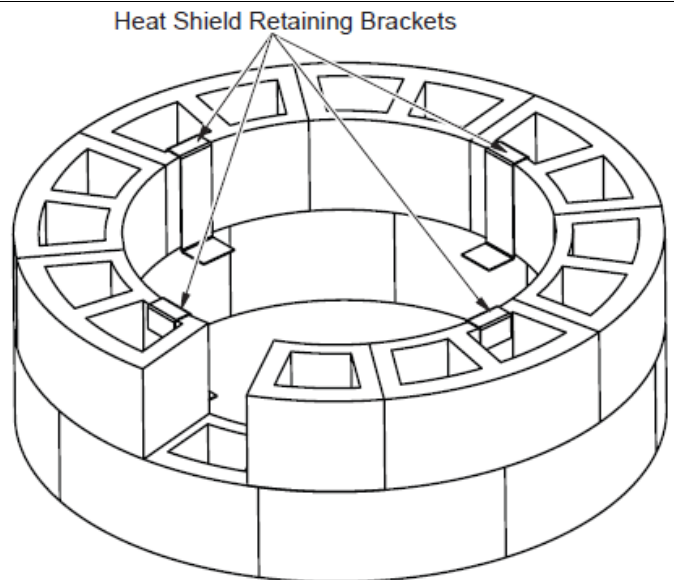

Figure 10 - Heat Shield Retaining Brackets (MFR16-48 Shown)
5. Place 4 heat shield retaining brackets (longer of the 2 types of brackets included with the MFRB Series burner system) on the top layer of blocks in the pattern shown in Figure 10.